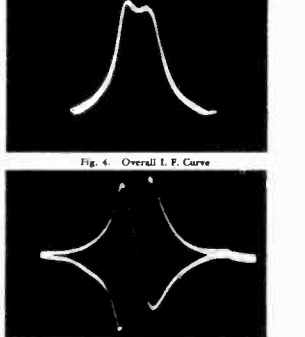

Fig. 4. Overall I. F. Curve Fig. 5. APC Adjustment Curve
Remove the defective pointer or drive cable to be replaced. Rotate the drive wheel (14) counterclockwise until the gang condenser plates are fully open. Place the end of the cable having an eyelet in slot (A). Thread the cable as shown in Fig. 4, making certain that the cable passes over the pin (B) and runs along the correct groove, the loop end hooking over the tension spring (16). Check the position of the drive wheel (14) on the condenser shaft to make sure that the cable coming off the right hand idler pulley lines up with the groove in the drive pulley.